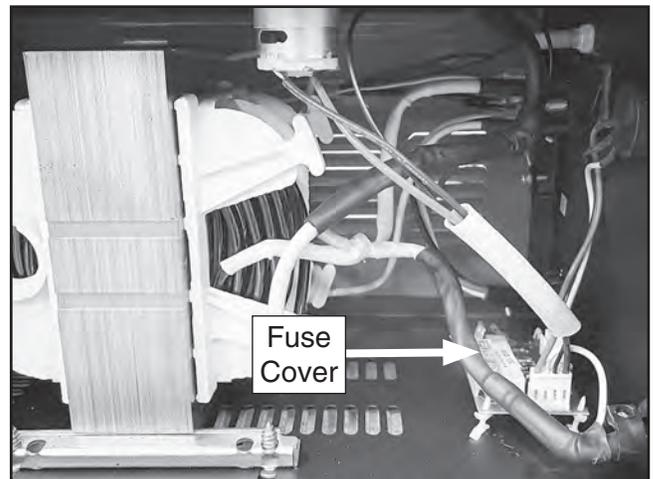

Figure 38. Location of clear fuse cover.
4. Remove clear fuse cover on circuit board labeled "FUSE" (see **Figure 38.**)